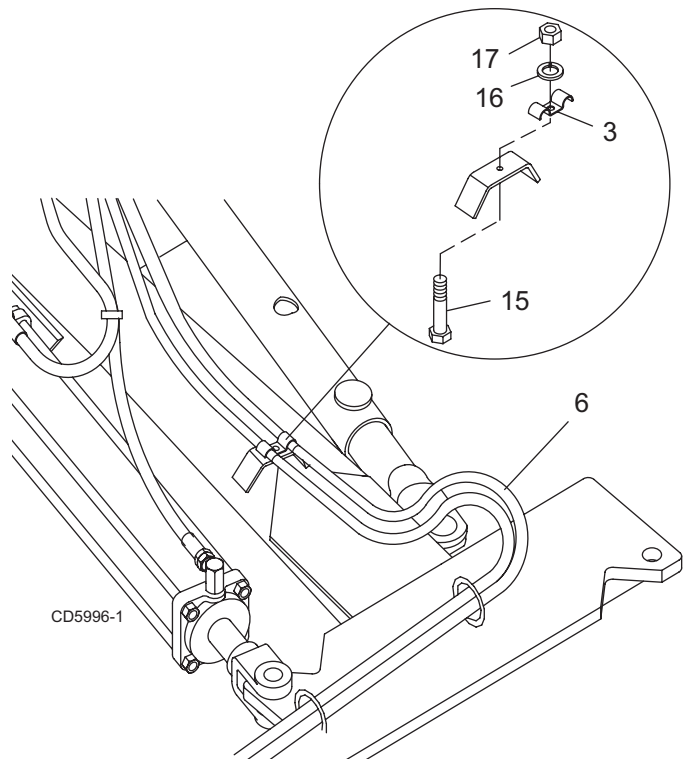

Figure 19. Hose Clamp Installation
1. Attach hose clamp (3) to boom as shown in Figure 19.
2. Position tape marked on hoses (6) at hose clamp (3).
3. Secure hose clamp (3) with cap screw (15), lock washer (16), and hex nut (17).